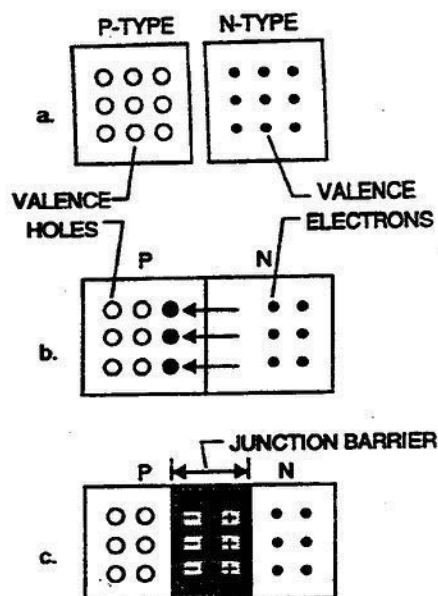

Figure 3-1. PN junction.
**PN junction diode.** An important phenomenon occurs when P-type and N-type materials are found together. This phenomenon permits the use of semiconductors as current control devices in much the same way that vacuum tubes are used. In the region near the junction, free valence electrons in the N-type material and holes in the P-type material are attracted to each other and, therefore, move toward each other and combine. That is, electrons cross the junction and assume a place in the structure of the molecule that contained a hole. This satisfies the valence force of the two molecules of both materials, N-type material losing one of its free electrons and P-type material gaining a desired electron. Both molecules now share eight electrons in their valence shells. You might think that all of the free electrons in the N-type material would cross the junction to fill the holes in the P-type material, but this is not so. Only a region near the junction is affected. Figure 3-1 illustrates this action.
In part "a" of figure 3-1, dots represent the valence electrons in the N-type material and small circles represent the valence holes in the P-type material. Both the electrons and the holes are shown equally distributed in their respective materials. In part "b," which shows the two materials fused together, the electrons near the junction have passed through the junction to fill holes in the P-type material. This movement, remember, is caused by the valence force of impurity atoms in both materials. The valence force of each pair of atoms that gives up and receives an electron is eliminated but a new force, an *electrostatic force*, is created.
When electrons in the N-type material cross the junction to fill holes in the P-type material, the ratio of electrons to protons increases in the P-type material and decreases in the N-type material. That is, negative ions are created in the N-type material. An EMF is thus created across the junction. The region near the junction, therefore, may be compared to a battery with the polarities indicated in part "c" of figure 3-1. When the charge of this region reaches a certain potential, the region acts as a barrier to valence electrons attempting to cross the junction. It is, therefore, sometimes called the *junction barrier*.
The reason a PN junction acts as a barrier to valence electrons can be understood by studying figure 3-1, c. The force of the negative ions formed in the P-type material near the junction repels the valence electrons in the N-type material. These valence electrons try to cross the barrier to fill valence holes in the P-type material. The force of the positive ions formed in the N-type material near the junction repels the holes in the P-type material. These holes tend to move toward the junction. As a result, the region near the junction is depleted of current carriers because there are no current-carrying free electrons in the N-type material near the junction and no current-carrying holes in the P-type material near the junction.